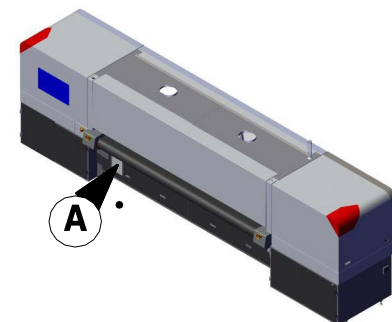

Figure 6-12 Printer Rear View
1. Lift up and remove the sheet metal cover containing the electronics compartment air inlet, Figure 6-12 location (A).